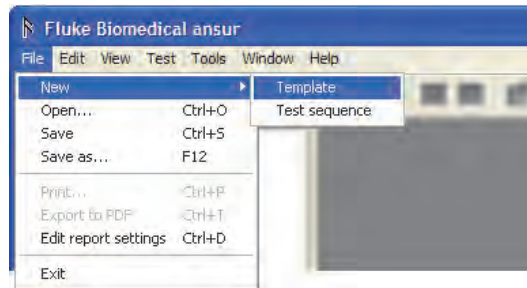

Figure 3-23. Creating a New Template
1. Click **File | New | Template** as shown in Figure 3-23 or click the **New Template** icon (📄) on the main toolbar.